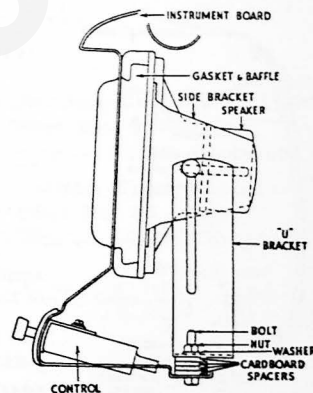

Figure 6
4. Fasten the two "L" brackets to the flange of the instrument board with the nuts, bolts, and washers, using three cardboard spacers under the left bolt and four cardboard spacers under the right bolt. Make sure that the long slot in the side of the "L" brackets are toward the grille and the bottom of the "L" brackets outward. (See figure 6).
6. Loosely assemble the side brackets on the speaker to the "L" brackets and force the speaker forward and in position as shown in Figure 6. Then tighten the nuts.